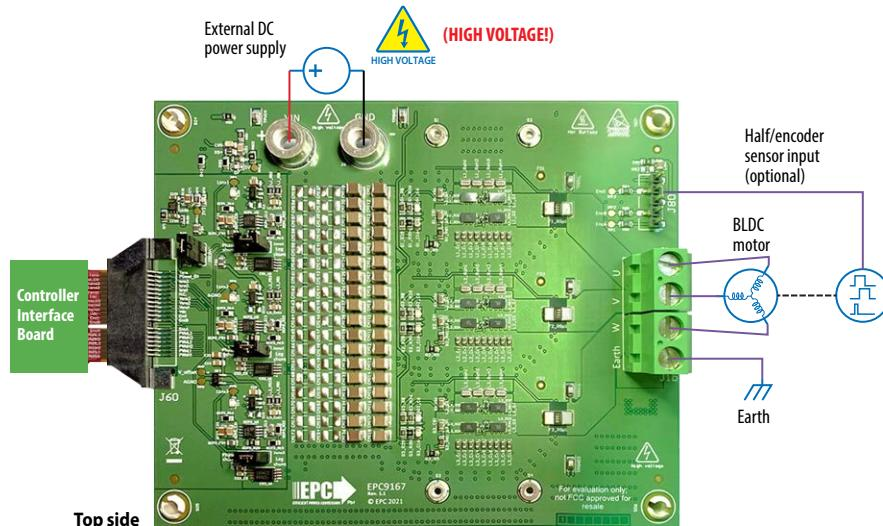
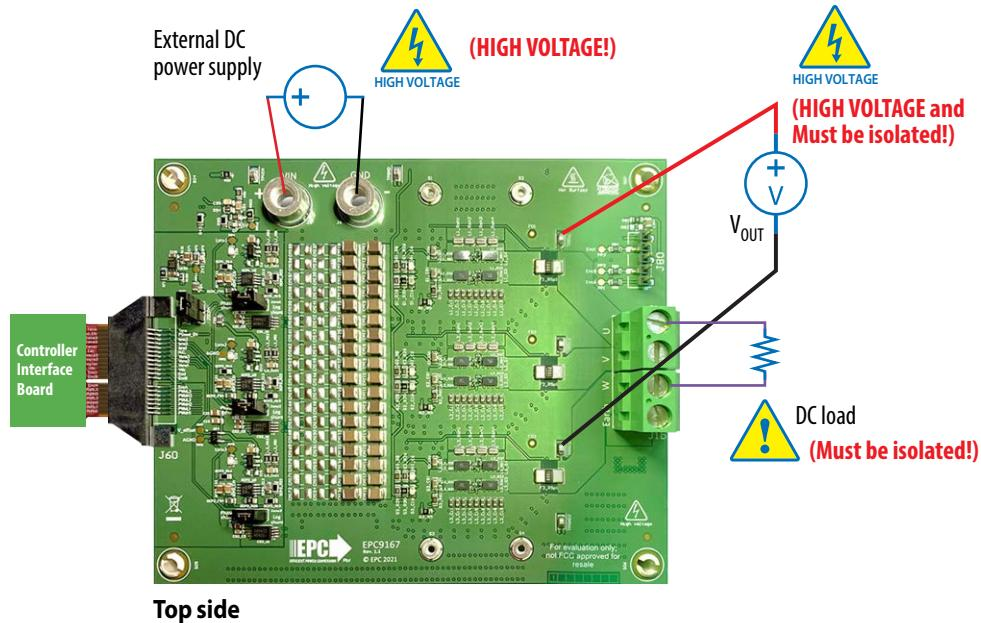

Figure 5: Connection diagram of the EPC9167 configured as a motor drive inverter
Figure 7: Connection diagram of the EPC9167 configured as a full bridge converter
A 3-phase BLDC motor drive inverter is the primary application case for which the EPC9167 board was designed for and can be used for either sensor-less or shaft encoder sensor configurations. The motor drive controller options are given in table 4 giving the user various mainstream choices that leverage existing resources to simplify and speed up development and evaluation. Figure 5 shows the simplicity of connecting a controller and motor to the EPC9167. **In the default configuration, the EPC9167 is paired with the EPC9147C that is pre-programmed to power and control a NEMA 34 size motor from Teknic M-3411P-LN-08D, with DC supply voltage of 48 V using sensor-less field orientated control with space vector pulse width modulation (SVPWM).**
The EPC9167 can also be configured as full bridge converter where any two of the three phases can be used. A full bridge connection example is shown in figure 7. Since the full-bridge converter is not specifically referenced to the ground (GNDP), the user must take appropriate measures to ensure the correct load connection. The output voltage can be measured using the applicable phase voltage test points (TP5, TP6, or TP7). The user must ensure that the measurement system is isolated for this type of measurement. Alternatively the output voltage can also be measured using the same technique given in figure 5, using the common ground (GNDP) and subtracting the one signal from the other.
2. Connect the correct motor, whose parameters are programmed into the controller, to the EPC9167 at connector J1 and the DC power supply at connectors J5 and J6 (**Observe correct polarity, there is no inverse polarity protection on board**) and shown in figure 5.